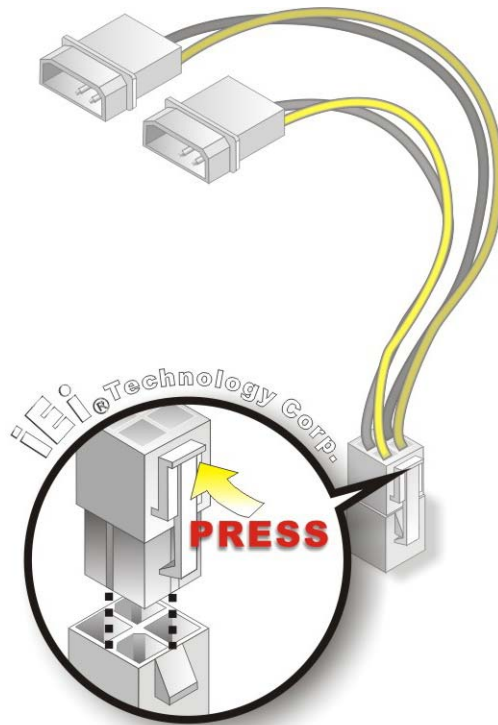

Figure 5-6: Power Cable to Motherboard Connection
Step 2: **Connect the Power Cable to the Motherboard.** Connect the 4-pin (2x2) Molex type power cable connector to the AT power connector on the motherboard. See Figure 5-6.